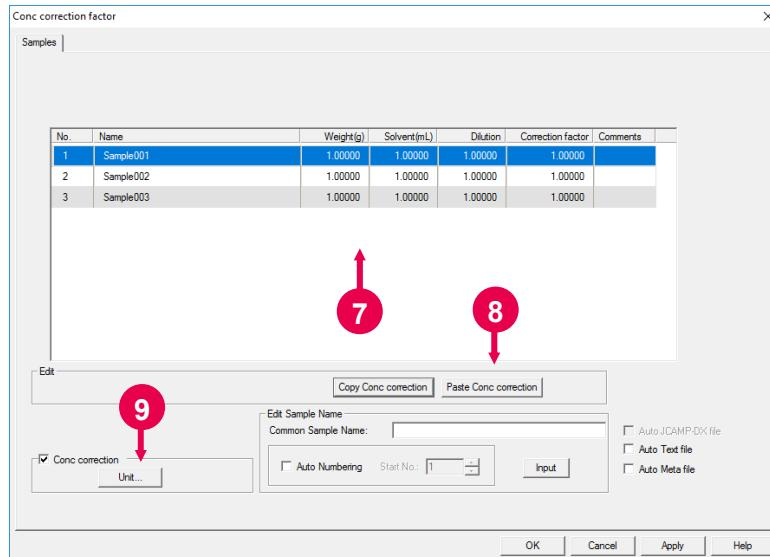

Fig. 5-69
- (5) Select a leading line for collective input of the concentration correction coefficients by clicking the corresponding No. in the concentration correction coefficient table.
While holding down the Ctrl key, click the Nos. for sample name setting to select multiple lines (refer to (7) in Fig. 5-69).
- (6) Click the **Paste Conc correction** button (refer to (8) in Fig. 5-69). The copy-source concentration correction coefficients are copied to the active lines (refer to (7) in Fig. 5-69). Note that the sample name or comment is not copied.
- (7) You can change the respective units of weight and solvent volume. Click the **Unit** button (refer to (9) in Fig. 5-69), and the Unit Setting dialog box will appear. Up to 6 characters can be entered for each unit.